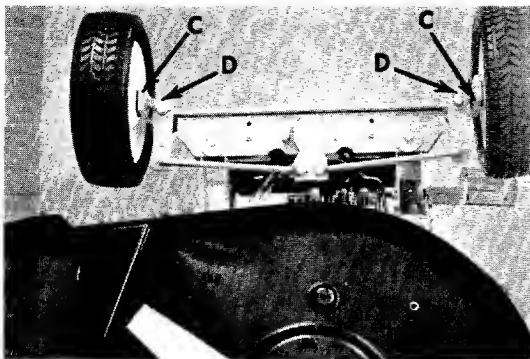

FIGURE 18. LUBRICATION
- b. **Front Wheel Bearings.** Remove the front axle bolts and coat the axle with a multi-purpose automotive type grease and reassemble once a season. See figure 18.
- c. **King Pins.** Lubricate the king pins after every 25 hours of operation with SAE 30 oil. Wipe up excessive oil with a rag. See figure 18.